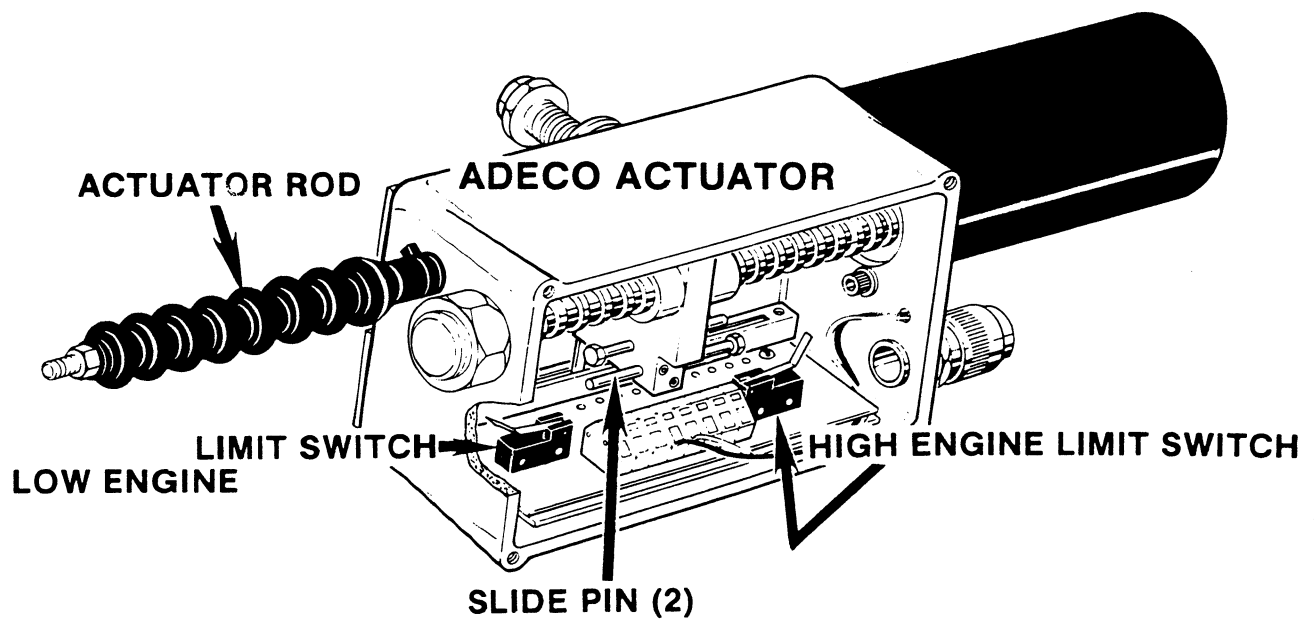

Figure 2-10. Adeco Actuator Adjustment, V465D.
- a. Proportional valve pressure setting procedures for machines with or without a steering wheel are shown in Figures 2-10, 2-11 and 2-12.